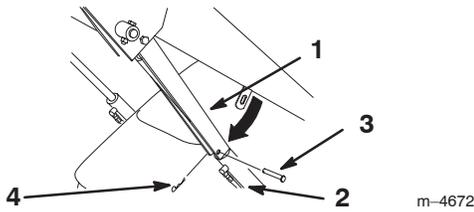

Figure 13
- Remove the hairpin cotter and clevis pin securing the cylinder lock to the loader arm (Fig. 13)
5. Lower the cylinder lock over the cylinder rod and secure it with the clevis pin and hairpin cotter (Fig. 13).
5. Rotate the cylinder lock up to the loader arm and secure it with the clevis pin and hairpin cotter (Fig. 13).